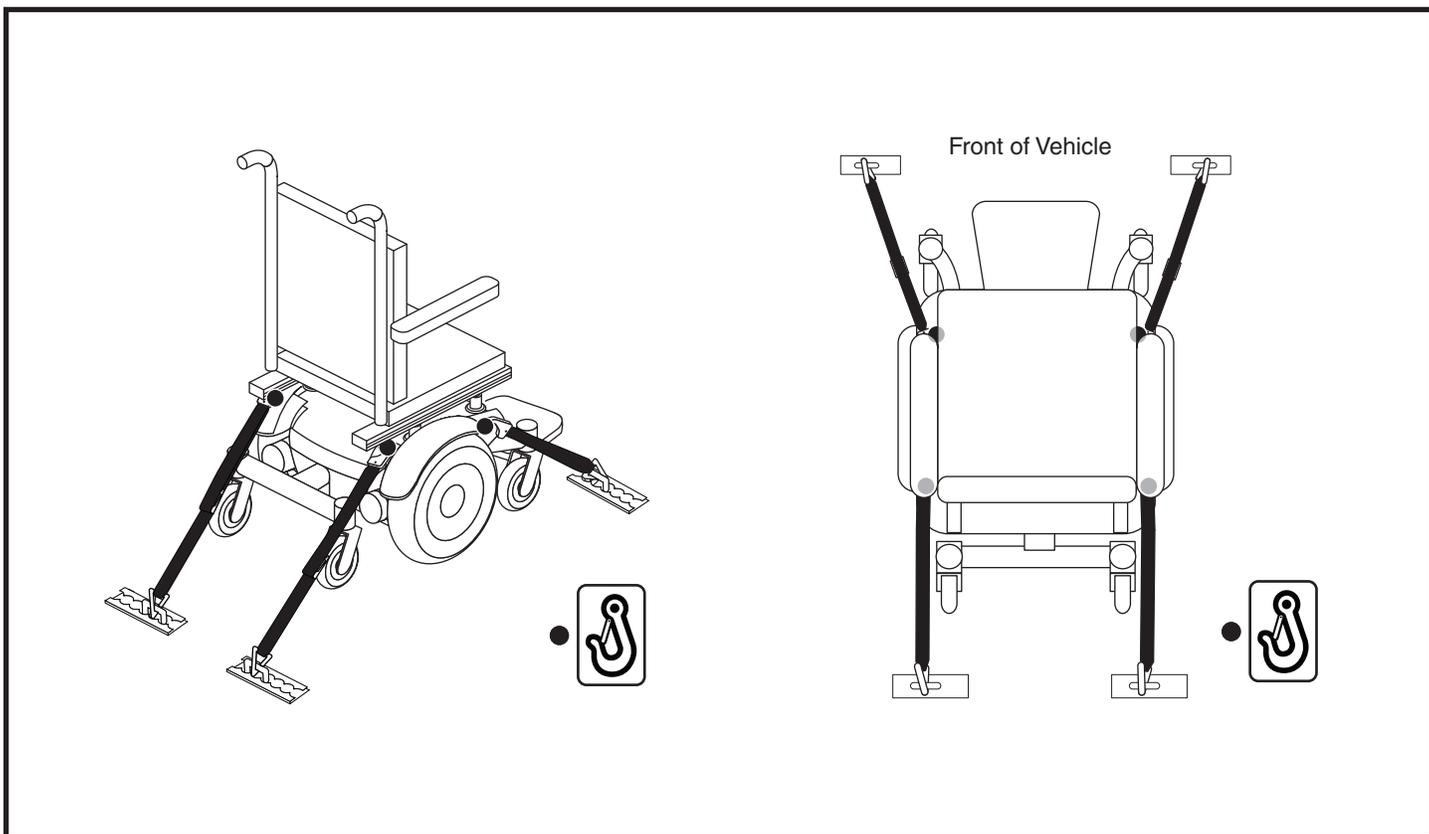

Figure 12. Unoccupied Transit System Securement Points
- Position the anchor point for the rear tie-down straps directly behind the rear securement points on the power chair. The front tie-down straps should be anchored to floor points that are spaced wider than the power chair to provide increased stability. **See figure 12.**